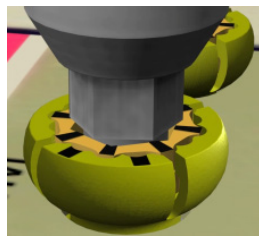

Figure 45
- Be sure that the hex of the screwdriver is fully engaged into the bone screw (fig. 45).